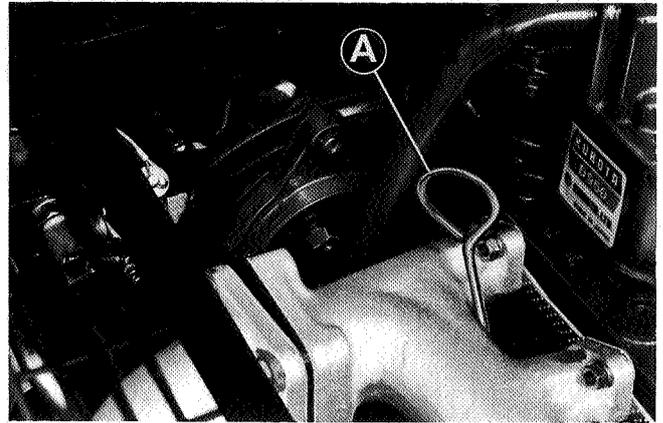

Abb.11
2. Engine Lubrication Oil (Fig.11)
- (a) Fill the engine sump with heavy duty (HD) oil to API classification CC/CD grade through the filler (see also chart on page 8).
2. Motor-Schmieröl (Abb.11)
2. Huile de lubrification du moteur (Fig.11)
2. Smeerolie voor motor (Afb.11)